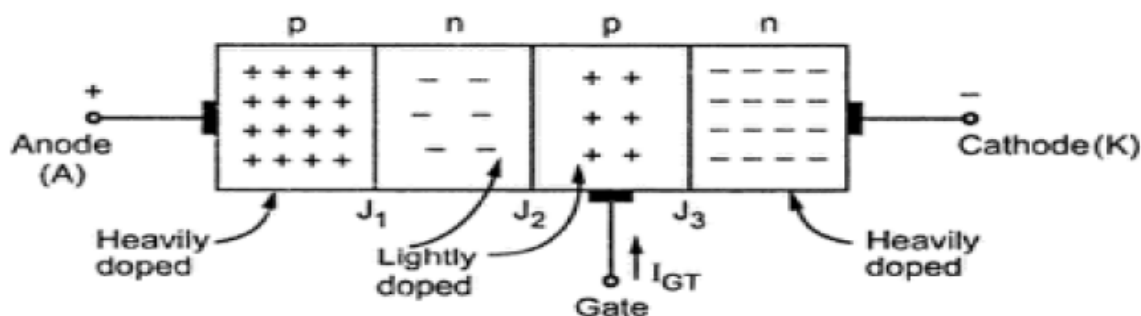

Fig. 5.24 Construction of SCR
- The three terminals are taken out respectively from these three layers, as shown in the Fig. 5.24.